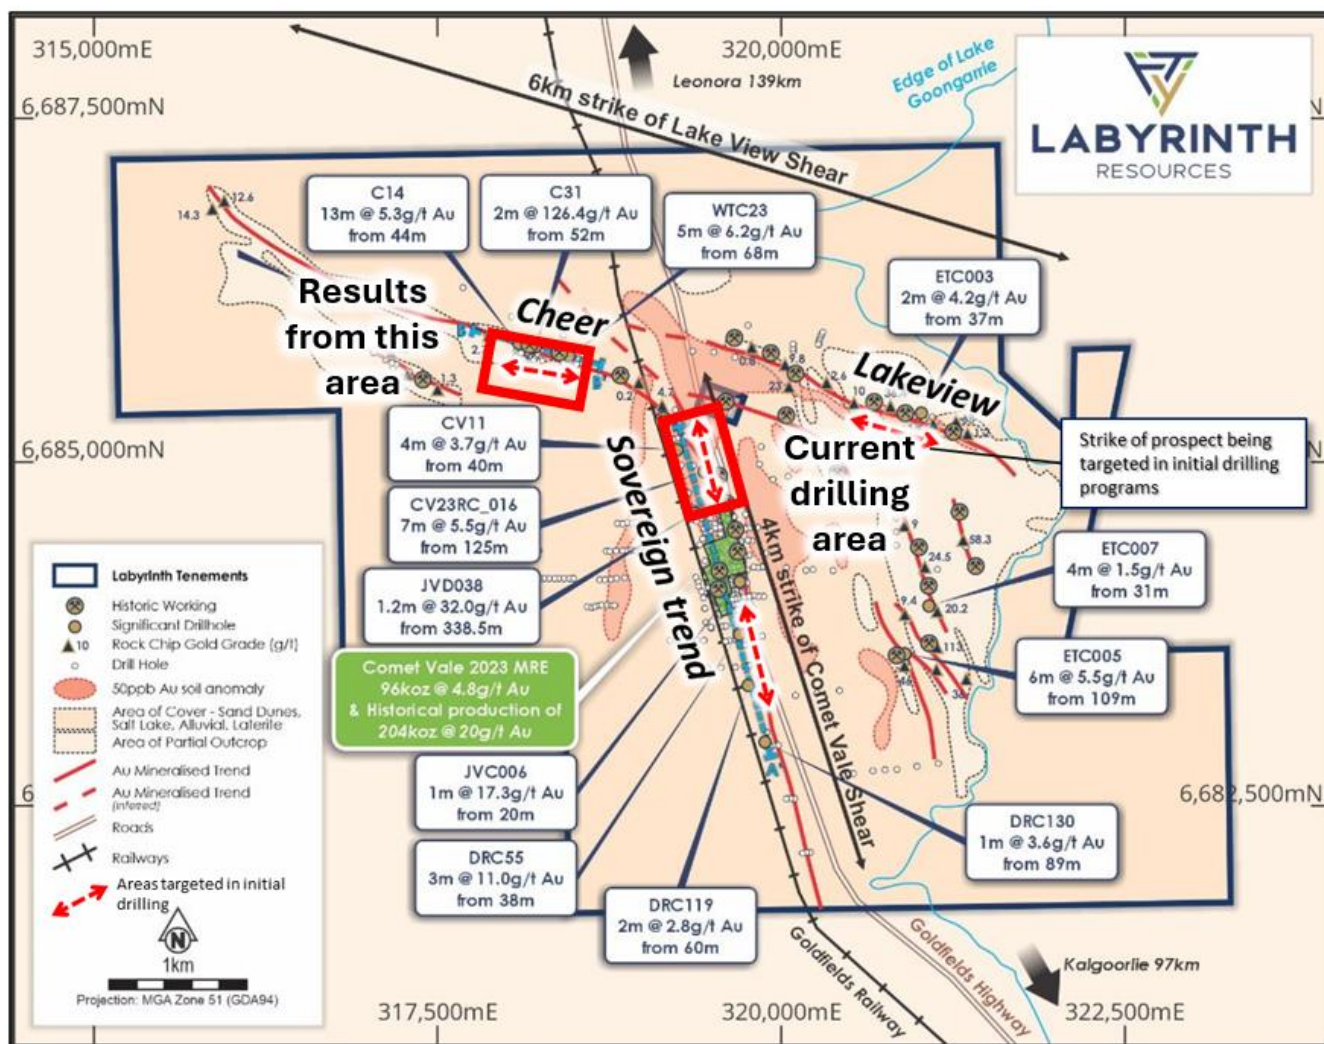

Figure 1 Plan of Comet Vale Project area
- Drilling **currently testing high grade mineralisation** at the Sovereign Trend which produced **200koz @ 20g/t Au¹** (Figure 1)
The results relate to 14 RC holes that have been drilled at the Cheer prospect (Figure 1, Table 1&2), further results are expected in the coming weeks.
Drilling commenced at the Cheer Prospect within the comet Vale Project on the 7th of October 2024 utilising an RC rig. Labyrinth has received results for 14 RC holes so far with additional holes currently at the laboratory. The Cheer Prospect is part of broadly east-west shear system that has a strike length of over 6km and is located on granted Mining Leases roughly 1km from the sealed Goldfields Highway (Figures 1 and 2).
Drilling is ongoing at Comet Vale with one RC drill rig scheduled to be drilling for the rest of the year at the project. The drill rig is currently following up high grade intercepts from CV23RC06 (Figure 1) at the northern end of the Sovereign Trend, which produced 200koz of gold at a grade of 20 g/t, before moving back to undertake further extensional drilling at Cheer. Further drilling results are expected to be returned over the coming weeks.